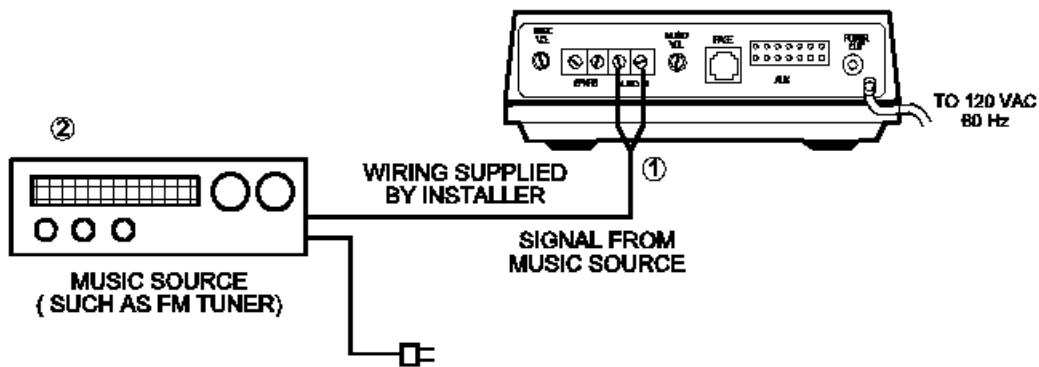

Figure 6. Connections Using an External Music Source
1. Connect audio output of music source (see Figure 6) to the PagePac 6 MUSIC IN terminals.